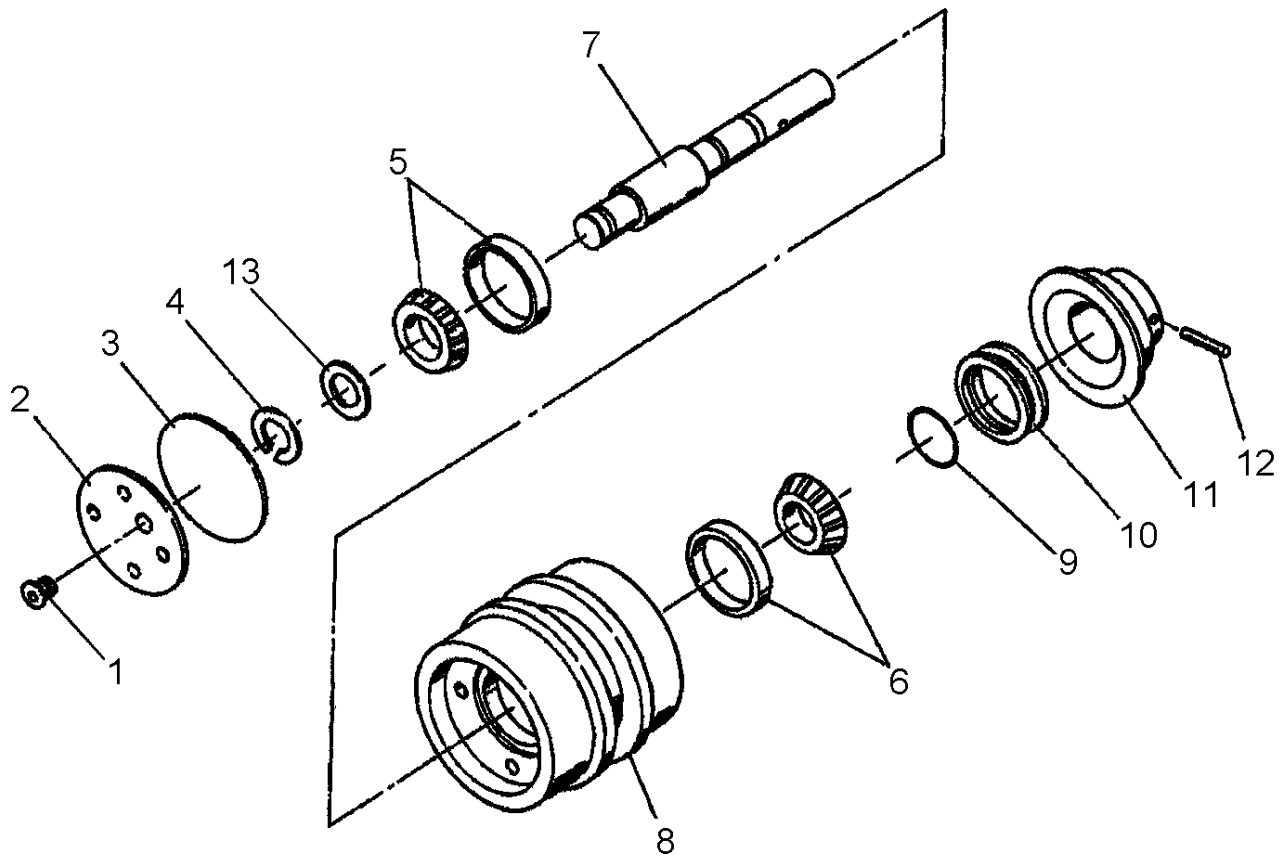

Fig. 14.20. Exploded View of Top Idler
20. DISASSEMBLY (Refer to Fig. 14.20)
22. REASSEMBLY (Refer to Fig. 14.20)
1. Slide track idler shaft into mounting block or bracket so that seal retainer pin (12, Fig. 14.20) is in a horizontal position. Align track idler with front idler and other track idler. Remove chisel from mounting block and secure block to track frame. Torque bolts to 730 [Nm].
2. Fill idler with recommended lubricant. Refer to OPERATOR'S MANUAL for recommended lubricant. Clean threads of plug (1) and apply LOCTITE Pipe Sealant with Teflon #592. Install plug in cover (2) and torque to 21 - 55 [Nm]. Lower track chain onto idlers and remove jack.